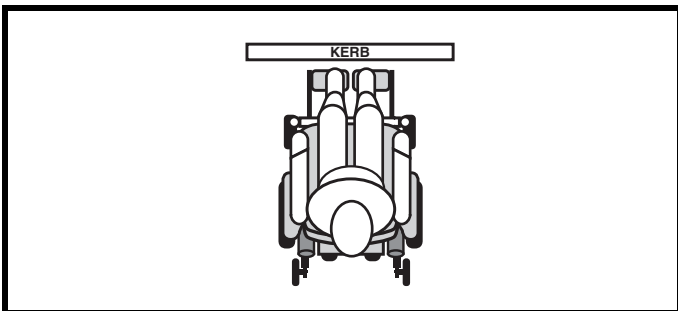

Figure 2. Correct Kerb Approach
Proceed with extreme caution when driving near raised surfaces, unprotected ledges and/or drop-offs (kerbs, porches, stairs, etc.). Be sure your power chair is traveling perpendicular to any kerb you may be required to navigate. See figure 2.
1. Approach the kerb or obstacle slowly, and make sure the power chair is traveling perpendicular to the obstacle. See figure 2.